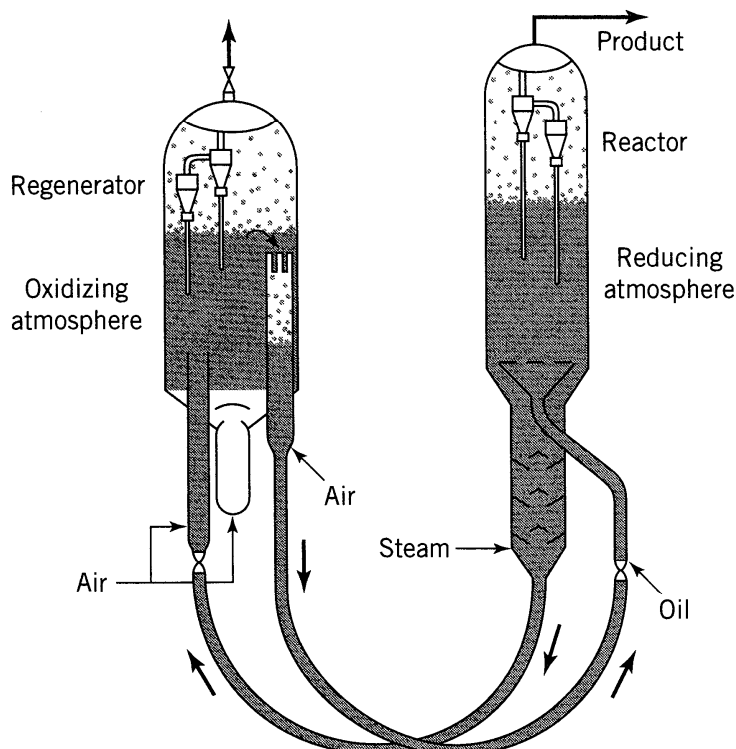

Figure P1.3 The Exxon Model IV FCC unit.
1.3. Fluid cracking crackers (FCC). FCC reactors are among the largest processing units used in the petroleum industry. Figure P1.3 shows an example of such units. A typical unit is 4-10 m ID and 10-20 m high and contains about 50 tons of $\rho = 800 \text{ kg/m}^3$ porous catalyst. It is fed about 38 000 barrels of crude oil per day ($6000 \text{ m}^3/\text{day}$ at a density $\rho \cong 900 \text{ kg/m}^3$), and it cracks these long chain hydrocarbons into shorter molecules.